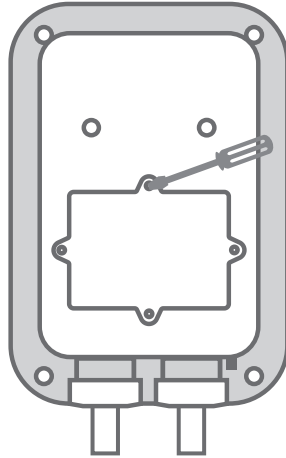

Fig. 5.6.1
1. Remove the four screws on the back cover with a Phillips screwdriver. (See Fig. 5.6.1)